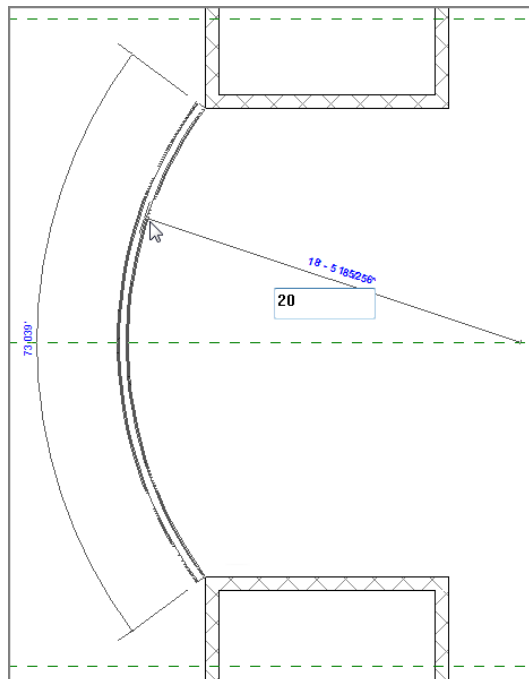

FIGURE 2.33: Drawing an arched radial wall requires a three-point method. It's similar to the Start-End-Direction command in AutoCAD.
9. Move your cursor to the left, and specify a radius of 20'-0" (6000mm), as shown in Figure 2.33.